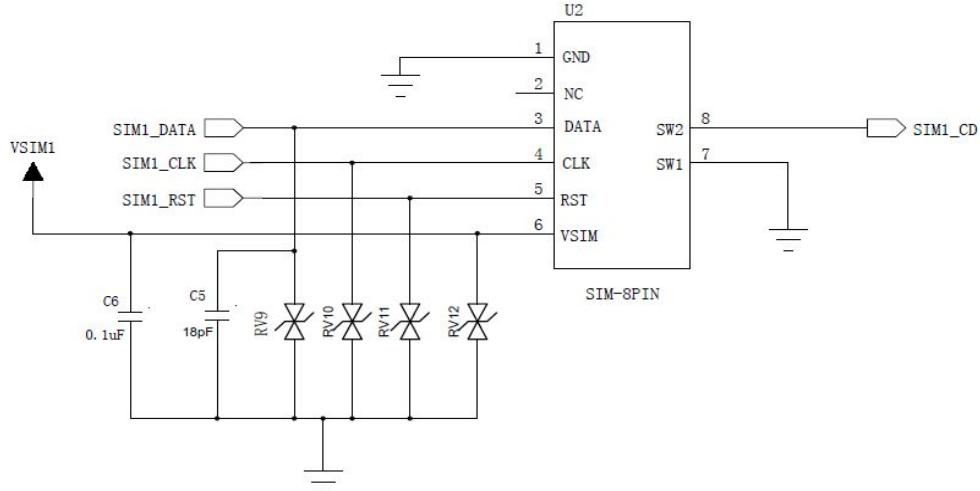

Figure 5-7 Reference Design of “Normally Closed” SIM Card Interface
- For “Normal closed” SIM card, as shown in the figure5-7, SIM1_CD signal line is connected to U2's Pin8 (SW2), and Pin7 (SW1) is connected to the ground. When the SIM card is not inserted, SW2 and SW1 short circuit, SW2 will be at low level. When the SIM card is inserted, SW2 and SW1 will be disconnected, SIM1_CD level will be pulled up.